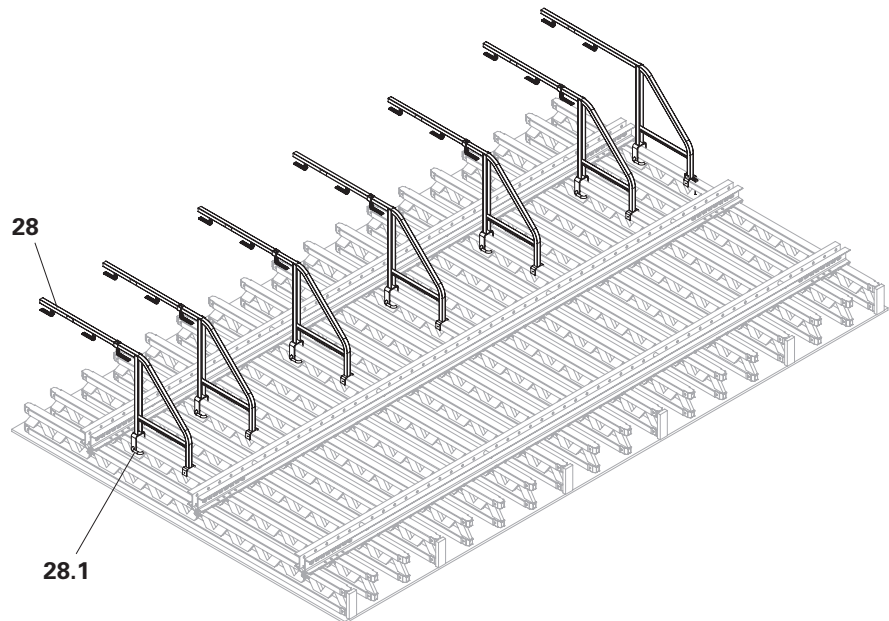

Fig. B7.03
1. Attach Scaffold Bracket GB 80 (**28**) to Formwork Girder GT 24 (**21**) and secure with clamp (**28.1**). (Fig. B7.03)